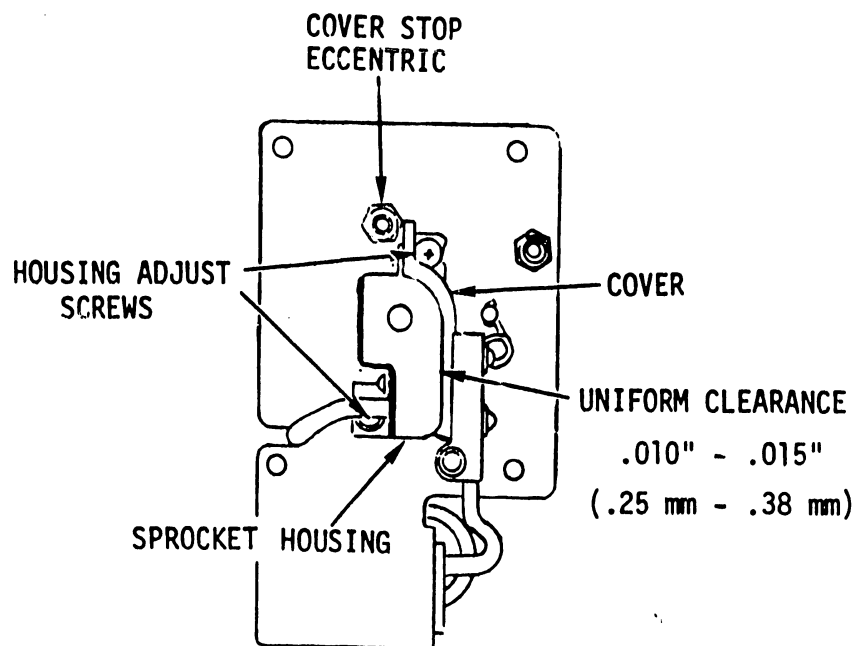

FIGURE 5-20 VERTICAL FORMAT UNIT ADJUSTMENTS
- 1) The curve of the sprocket should be uniform (see Figure 5-20) and parallel with the curve of the housing allowing plenty of tooth height but not forcing the surface of the sprocket to interfere with the cover.
- 2) Adjust cover stop eccentric to set a gap of .010" - .015" (.25 mm - .38 mm) between the cover and housing (see Figure 5-20).